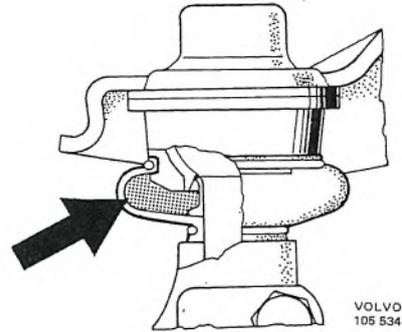

Fig. 1-9. Ball joint
- Note 2. Check that oil reaches up to filling plug (Fig. 1-9).